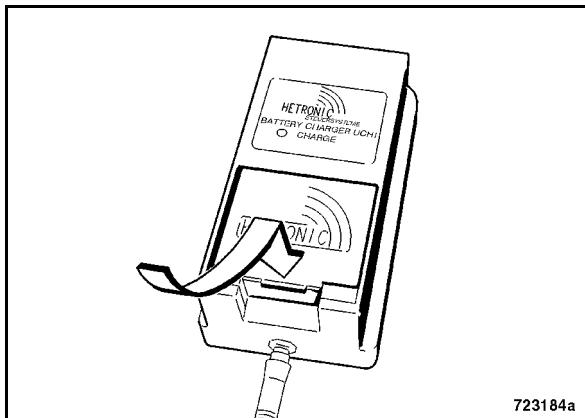

Fig. 75
- Insert the power pack into the battery charger (Fig. 75).